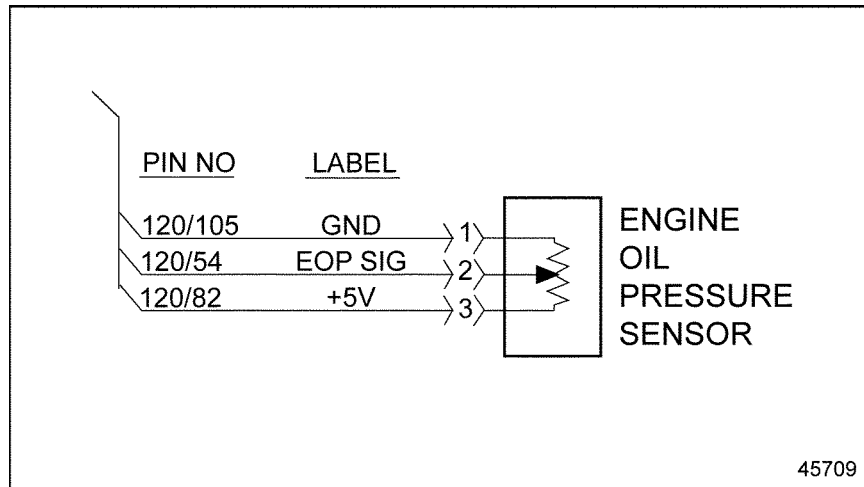

Figure 26-1 Engine Oil Pressure Sensor Wiring
4. Measure the voltage between pin 3 of the EOP Sensor harness connector and ground. See Figure 26-1.